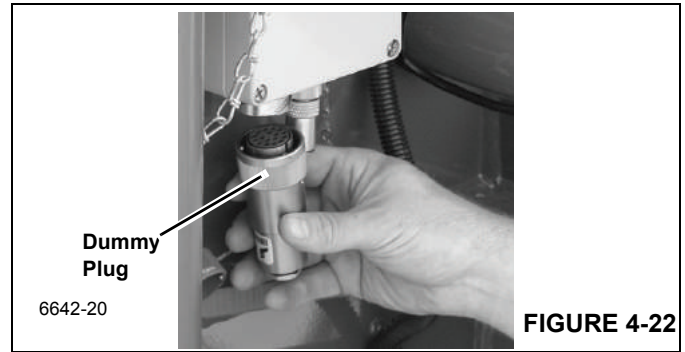

FIGURE 4-22
- b. Remove dummy plug from junction box on boom nose Figure 4-22.